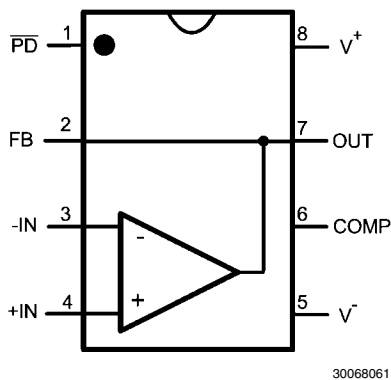

FIGURE 2. 8-Pin LLP Pinout Diagram
The LMH6629 has some additional features to allow maximum performance. As shown in Figure 2 there are provisions for low power shut down and two internal compensation settings, which are further discussed below. Also provided is a feedback (FB) pin which allows the placement of the feedback resistor directly adjacent to the inverting input (IN-) pin. This pin simplifies board layout and minimizes the possibility of unwanted interaction between the feedback path and other circuit elements.